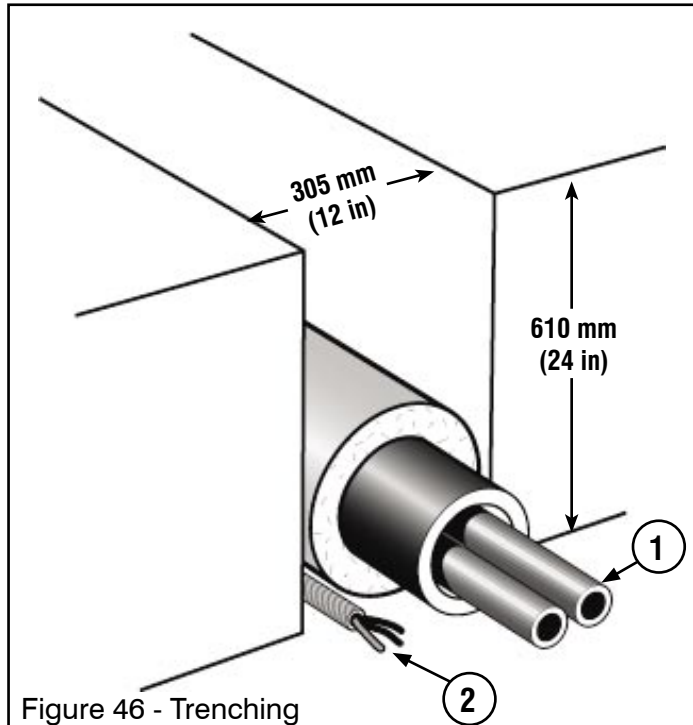

Figure 46 - Trenching
- 1) The water lines (1, Fig. 46) must be insulated to minimize heat loss.
- 6) Install a power cable (minimum 10/3 AWG) (2, Fig. 46) approved for underground installation.